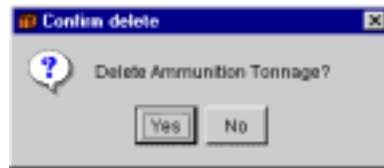

Figure 5.113 Confirm Delete Window
4. Click the  (Delete) button at the bottom center of the window. The Confirm Delete window opens displaying the name of the commodity to be deleted (Figure 5.113).